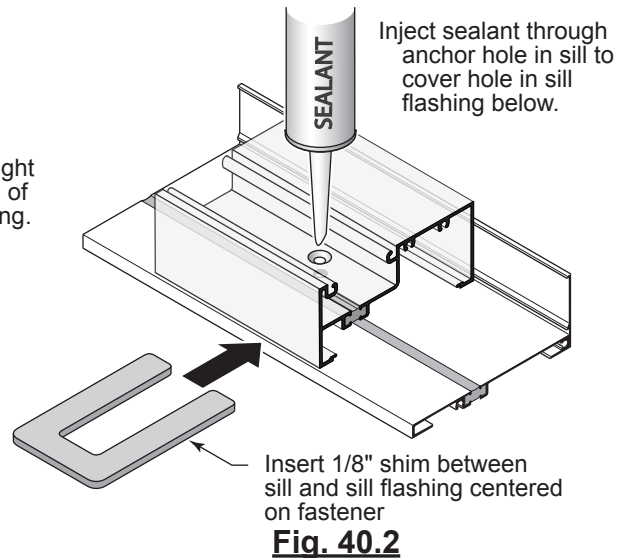

Fig. 40.2
- I. Shim between sill and flashing centered on anchor. See **Fig. 40.2**.
- J. Inject sealant into anchor hole to cover hole in flashing. See **Fig. 40.2**.